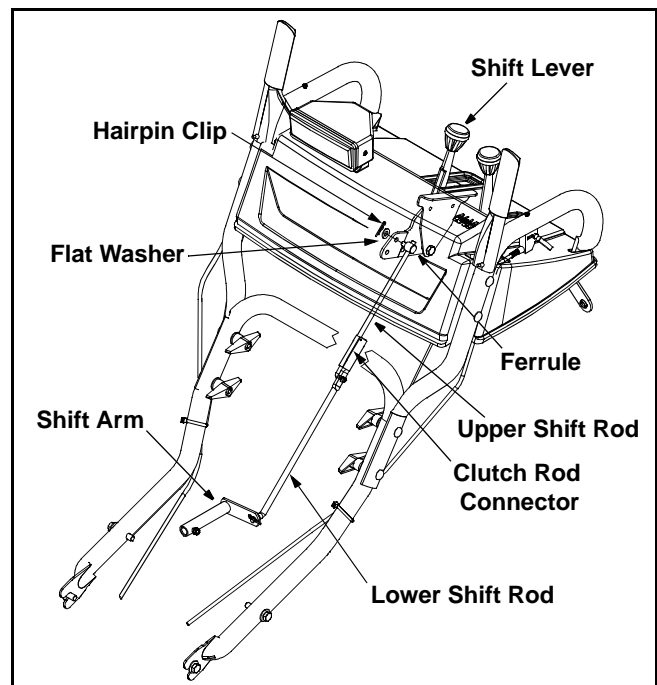

Figure 11
- Place shift lever in sixth (6) position or fastest forward speed.
- Rotate the ferrule up or down on the shift rod as necessary until the ferrule lines up with the upper hole in the shift lever. See Figure 11.